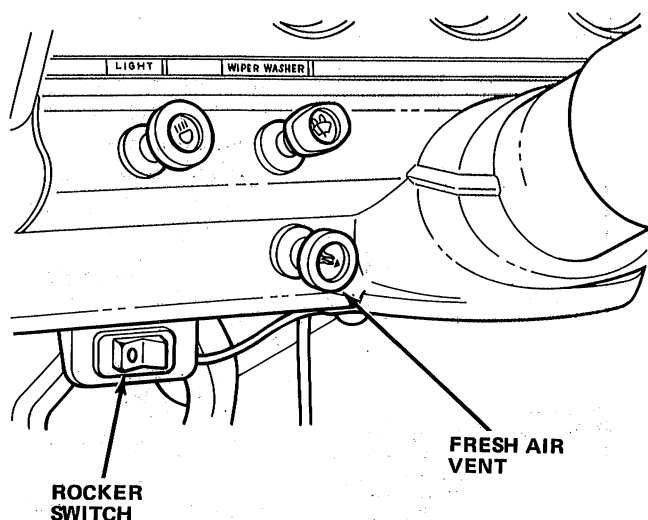

Fig. 3R-15 Switch Location—Typical
- (1) Position vehicle on a flat surface, facing and approximately 25 feet from wall.
- (2) Remove lamp stone shields (fig. 3R-16).
- (3) Loosen lamp attaching hardware. Turn headlamp and fog lamp switches ON (fig. 3R-15), adjust lamp beams as follows: